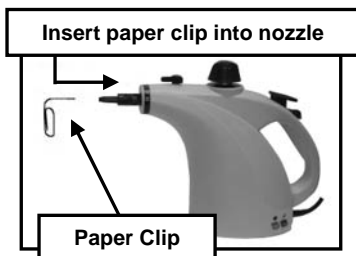

Fig. 10
2. Use a small diameter stiff metal wire such as a straightened metal paperclip and carefully insert the end of the wire into the nozzle orifice. (Fig. 10)